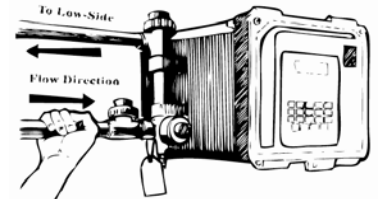

FIGURE 2
- Direction of flow should be from the bottom to the top of the flow assembly (see Fig. 2).